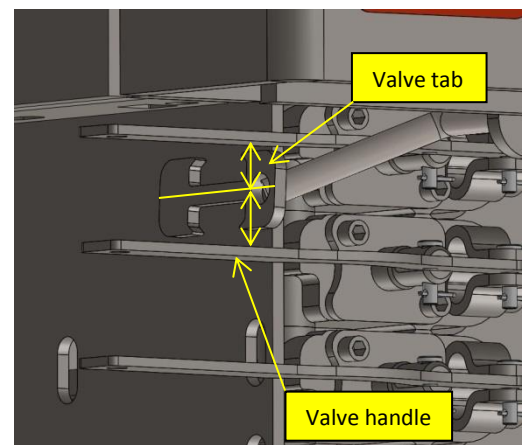

Figure 5
7. Adjust the spring plungers so that the tips of the plungers are just touching the centering tab and tighten the nuts. Center the valve tab vertically and verify that the catches on the valve tab are between the valve handles as shown (**Figure 5**) and tighten the two (2) set screws in the centering tab.